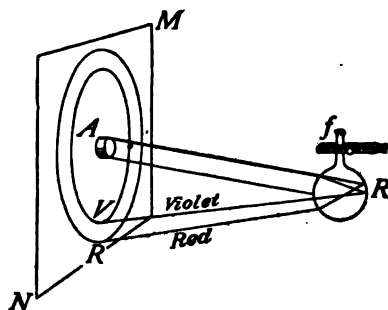
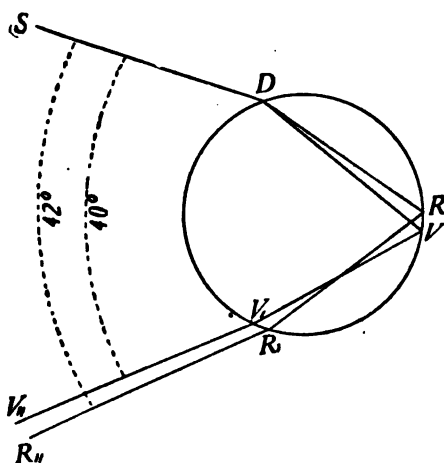

FIG. 404.—A rainbow formed by a beam of light striking a flask of water.
FIG. 405.—The course of a beam of light within a drop of water.
**405. The solar spectrum**, as the spectrum of sunlight is called, may be observed in the *rainbow*. The latter is produced through the dispersion of light by spherical raindrops. Its formation may be imitated by sending a small circular beam of light through a screen against a round glass flask filled with water. (See Fig. 404.) The light passes through the water and is dispersed when it enters and when it leaves, producing a color upon the screen at *R-V*. The course of the light within the drop is indicated in Fig. 405. The violet ray comes to the eye more nearly horizontal and is therefore below red, as we look at the rainbow.